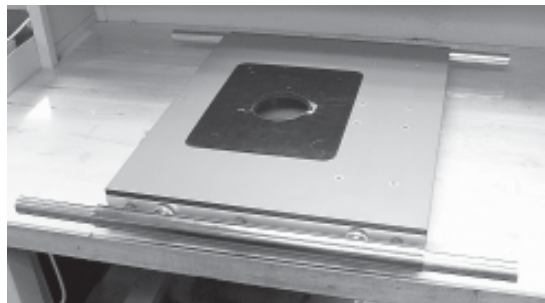

Figure 2
4. Insert one Connector Tube into both the Front and Rear Table Tubes (3) of the Router Table.
5. Position both Connector Tubes evenly, so that an equal amount is protruding from both ends of the Router Table Tubes. (See Figure 2)